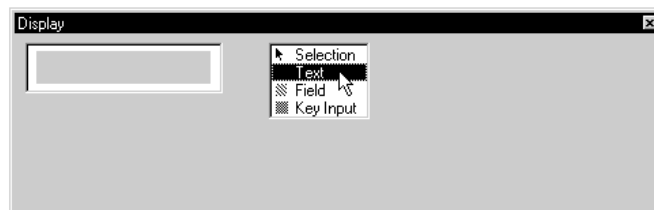

Figure 4-24 Display Window - Select Text Tool
26. Click **Text** from the tool palette (Figure 4-24).